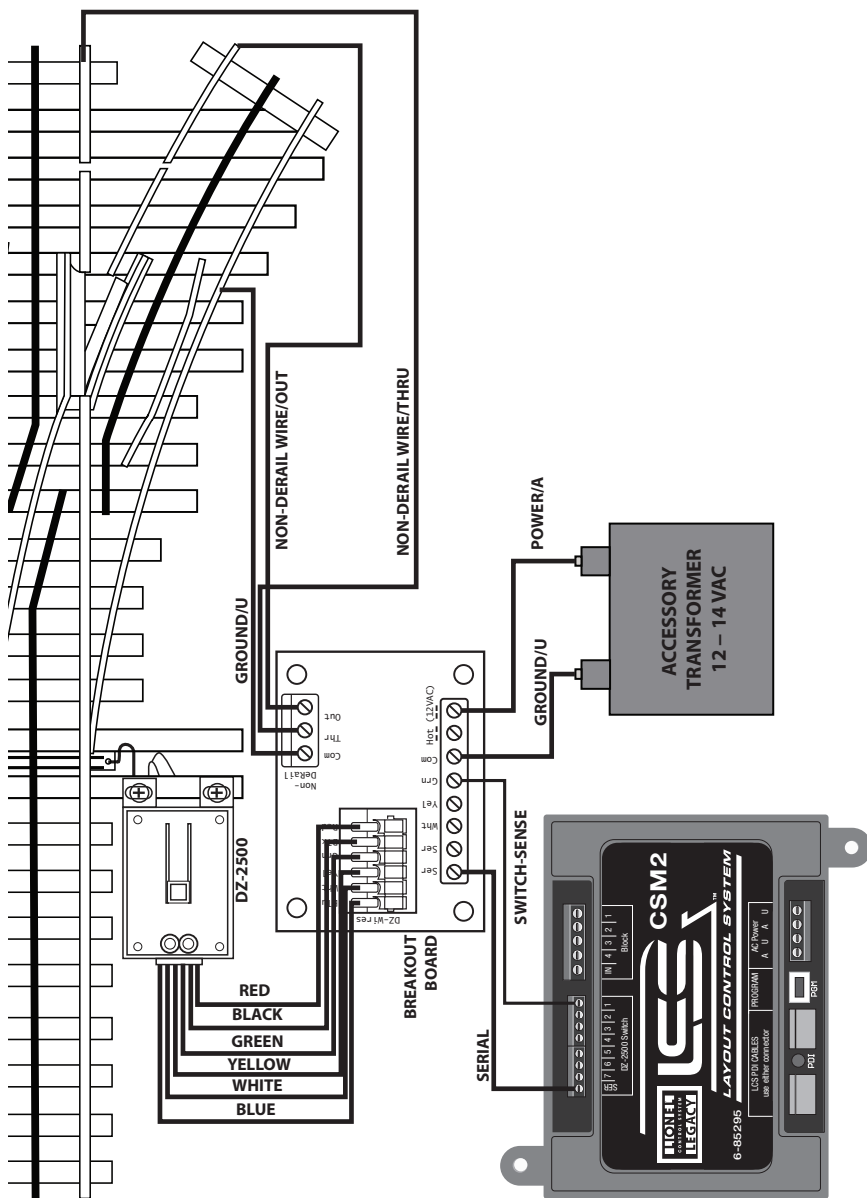

Figure 13. Wiring DZ-2500 to CSM2 using Lionel Breakout Board
**L**ionel has created a Breakout Board, or connection board, for the DZ-2500. The board is currently available for purchase through Electric Railroad or through Lionel Customer Service (Part number 1908010). The Breakout Board offers many advantages over installing the DZ-2500 switch machines directly to the CSM2. See figure 13 on page 18.